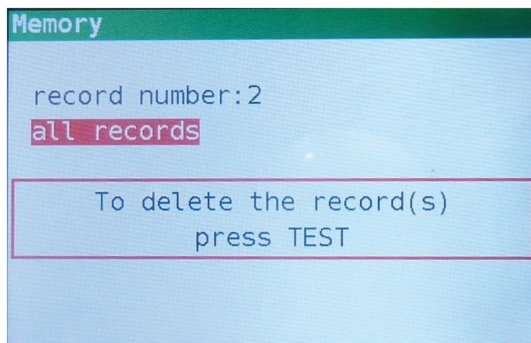

Figure 7.7: Delete screen
Step 5 Press the **DOWN** key to select all records (Figure 7.7)